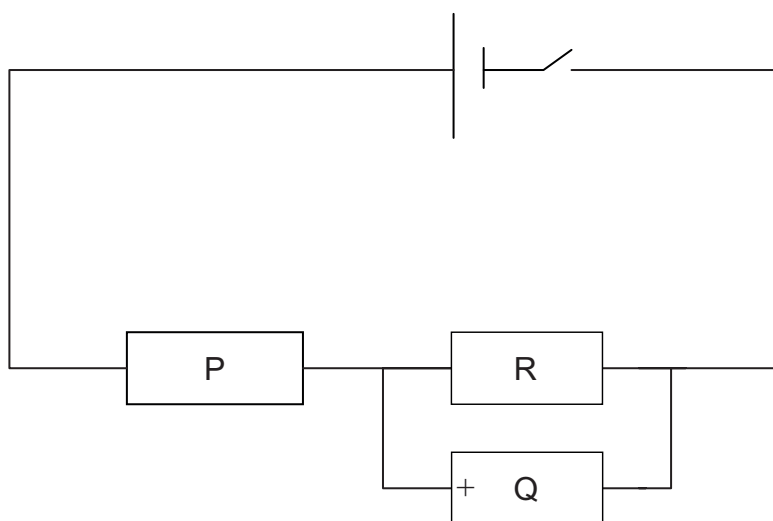

Fig. 2.2
- (b) Adapt the circuit provided to set up the circuit as shown in Fig. 2.2. Take care to ensure the polarity of component Q is as shown.